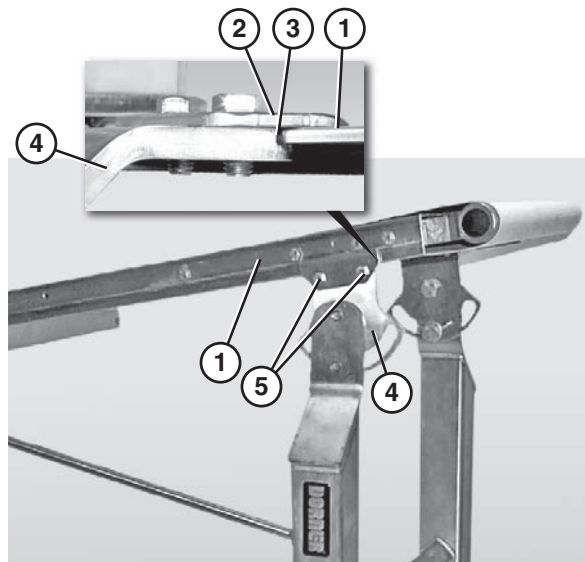

Figure 6
Make sure the conveyor (**Figure 6, item 1**) is seated between the clamp plate (**Figure 6, item 2**) and the lip (**Figure 6, item 3**) at the top of the stand (**Figure 6, item 4**) before tightening the clamp plate screws (**Figure 6, item 5**).
4. Attach the bracket (**Figure 6, item 4**) to the conveyor (**Figure 6, item 1**) and tighten the four screws (**Figure 6, item 5**) to 80 in•lb (9 N•m).